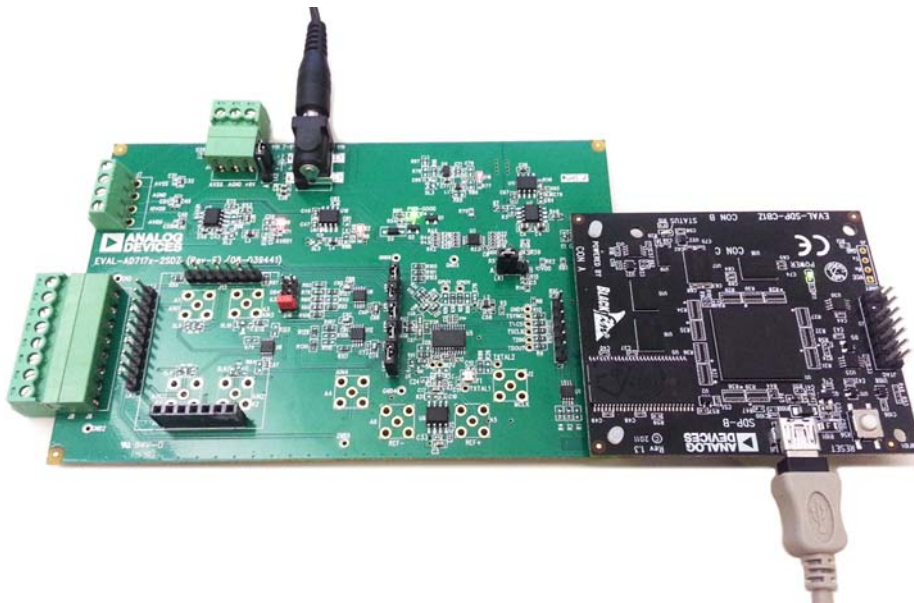

Figure 2. Hardware Configuration, Setting Up the EVAL-AD7172-2SDZ
4. Connect the **SDP-B** board to the evaluation board, as shown in Figure 2.
6. Connect the external 9 V power supply to the J5 connector of the evaluation board, as shown in Figure 2. Set LK2 to Position B.